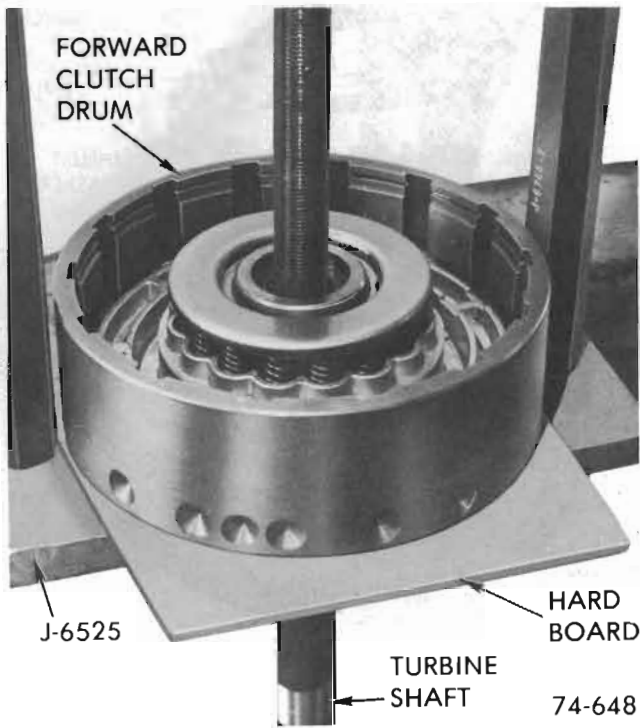

Figure 76-179
5. If necessary remove turbine shaft. See Figure 76-179.
**NOTE:** If turbine shaft was not removed, install retainer as shown in Figure 76-179.